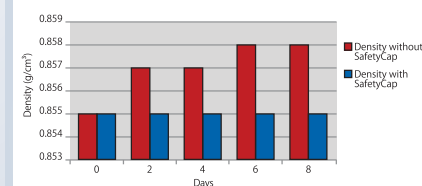

Fig. 1 Changes in the density of a methanol/water mixture
0.855 g/cm³ of the solvent mixture rose to a density of 0.858 g/cm³ (Fig. 1). An increase in density indicates that there has been a greater loss of methanol than of water from the mixture. This loss did not occur in the same mixture ratio.